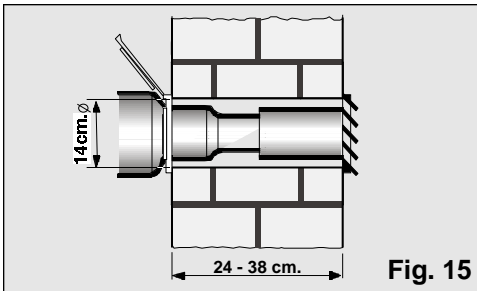

Fig. 15
- To expel hot air through the wall, it is necessary to make an 14-cm diameter hole in the wall and fit the wall grommet, **Fig. 15**.